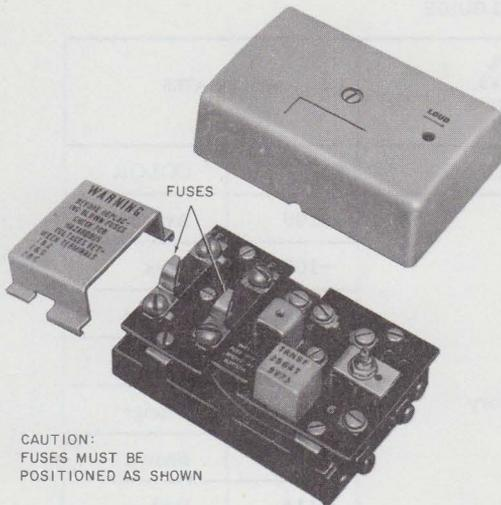

Fig. 11—33A Voice Coupler
2.16 The 33A voice coupler (Fig. 11) is an interconnecting unit which provides a point of connection for a customer-provided music source used with music-on-hold and/or background music. The unit is 1-13/16 inches deep by 2-3/4 inches high by 4-3/8 inches in length and is wall-mounted externally from the KSU. A potentiometer (with screwdriver adjustment slot) controls the level of the background music. The unit contains two fuses for protection against hazardous voltages from the customer-provided music source.